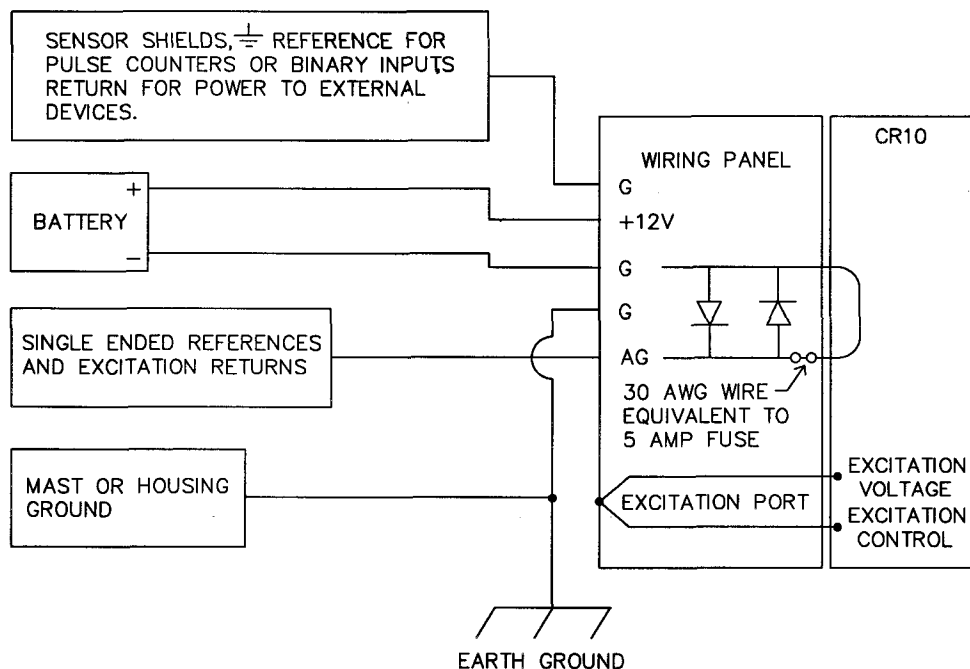

FIGURE 14.7-1. Wiring Panel Grounding Diagram and Excitation Control
Every terminal on the Wiring Panel, with the exception of ground (G) and analog ground (AG) terminals are spark gapped. The spark gaps will fire at 150 V and the current will be diverted to ground. As shown in Figure 14.7-1, the power ground and analog ground are independent lines until joined inside the CR10. The fuse shown in Figure 14.7-1 (located on the underside of the Wiring Panel) is a 30 AWG wire, equivalent to a conventional 5 Amp fuse. It will blow if a sufficient transient comes in on the G or AG lines, at which time the current is
The purpose of the Wiring Panel is to provide transient protection, improve excitation voltage accuracy, and make convenient, positive connections of power, sensors, and peripherals to the CR10 (refer to Figure 14.7-1). Wiring Panel transient protection is discussed in Section 14.7.
required to compensate for line losses between the CR10 and the excitation port on the Wiring Panel (see Figure 14.7-1).